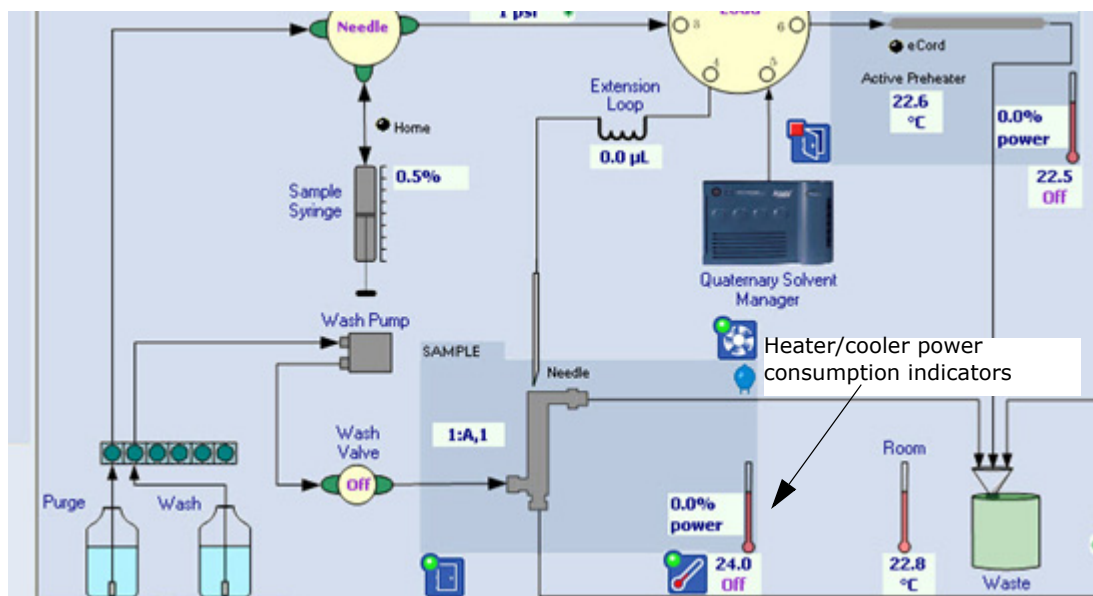

Figure 62 - Power consumption indicators on interactive display
- Sample compartment temperature remains above 10° C while heat sink remains close to 0° C and heater/cooler power consumption is less than 85-90% (Figure 62).
7. From the Interactive Display, monitor the heater/cooler power reading (Figure 62). Wait until it reaches 100%. This will take 10 minutes.